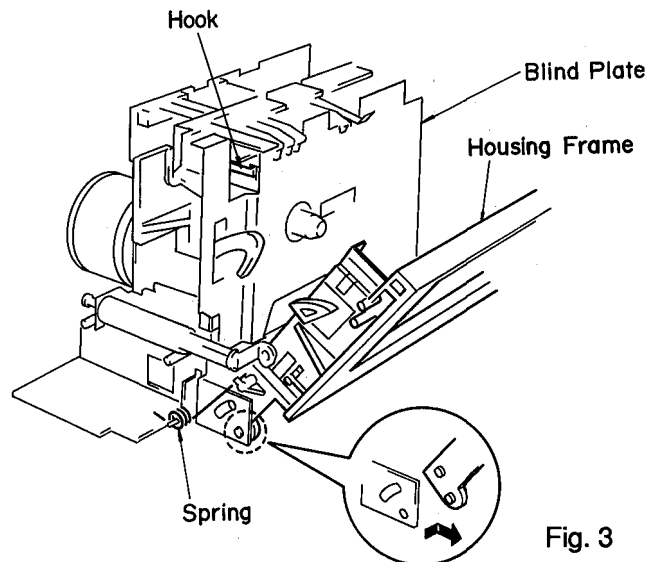

Fig. 3
- Remove the blind frame by removing the hooks on both sides of the plate in fig. 3. (The back light LED can be replaced when the blind plate is removed.)